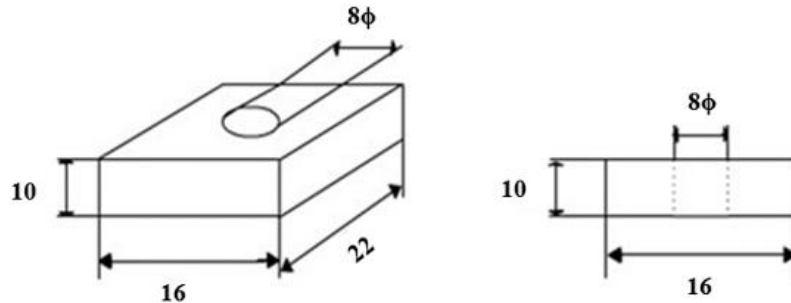

Figure 2b: Casting
- b) The casting shown in figure 2b, is to be made in cast iron using a wooden pattern.